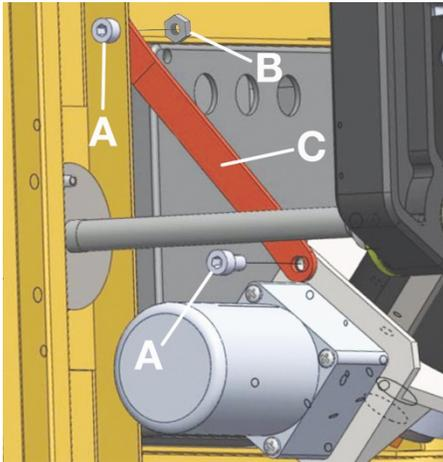

Figure 6-2: Removing Shipping Bracket
4. Remove and discard shipping bracket cap screws (A), hex nut (B), and shipping bracket (C) (see Figure 6-2).